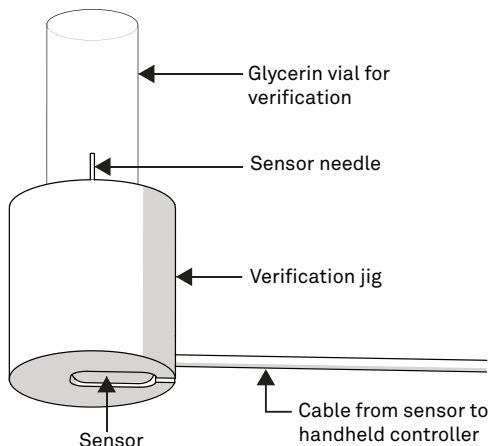

Figure 22 Verification holder for single-needle sensors
1. Using the white Delrin verification jig (Figure 22), insert the glycerin vial through the opening in the bottom.